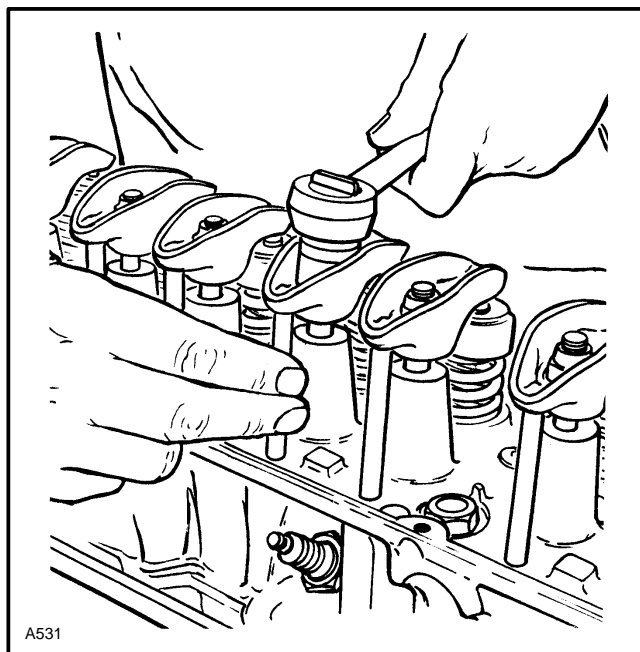

FIGURE 10. VALVE CLEARANCE ADJUSTMENTS
3. Remove the distributor cap. Turn the crankshaft until the rotor is aligned over the mark for the number one cylinder. Now adjust both valves for the number one cylinder. Tighten the nut for the rocker arm while turning the push rod with your fingers as shown in FIGURE 10. Tighten the nut just until the movement of the push rod stops. This condition is zero clearance. Now tighten the nut one more turn.